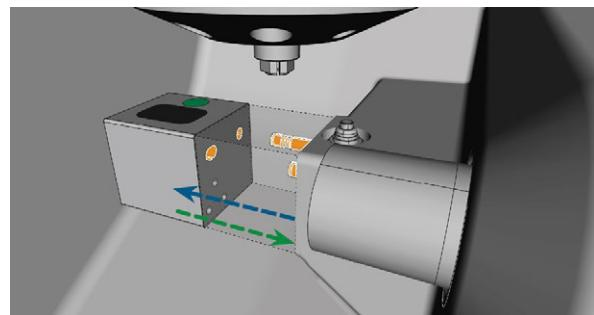

FIG. 46 EXCHANGING THE TOOL MAGAZINE (TOOL MAGAZINE HOLDER AND HOLES IN THE TOOL MAGAZINE MARKED ORANGE)
3. If an incorrect tool magazine is mounted, remove this magazine by pulling it off the tool magazine holder (Fig. 46 on the previous page, blue arrow).
6. Plug the tool magazine onto the tool magazine holder (Fig. 46 on the previous page, green arrow):